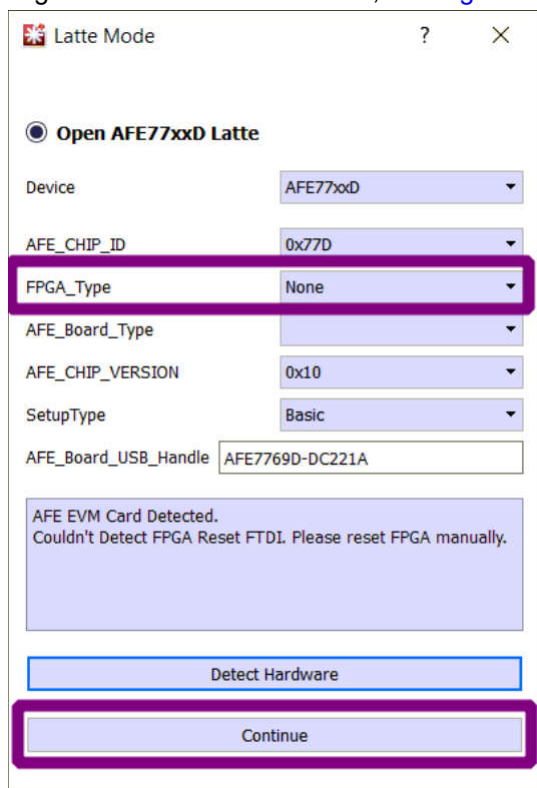

Figure 4-4. Launching the AFE77xxD Latte GUI
10. Start the TI AFE77xxD Latte GUI software and in the first dialog window titled "Latte Mode", make sure that **FPGA_Type** is set to "None" and the "AFE EVM Card Detected" message appears. The message "Couldn't Detect FPGA Reset FTDI. Reset FPGA manually." is expected. Then press "Continue" button to open the main Latte GUI. For proper navigation to Latte mode window, see Figure 4-4.